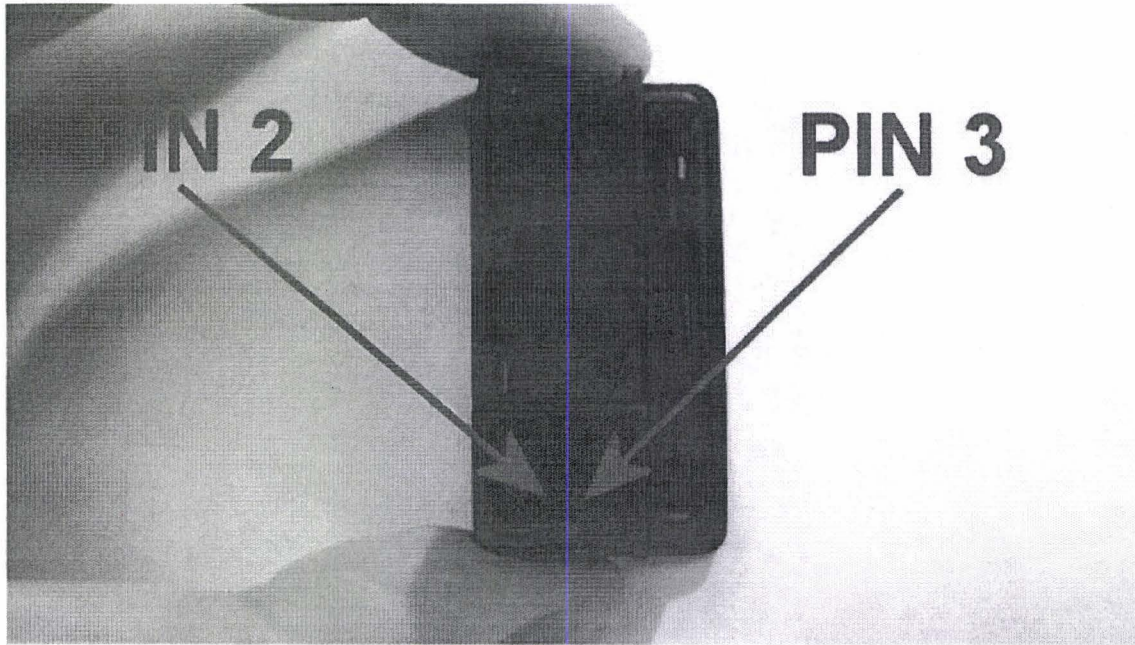

Figure 3
- Measure the resistance between pins 2 and 3 (Figure 3) The button on the boot close switch must be pressed and held in otherwise a correct reading will not be obtained